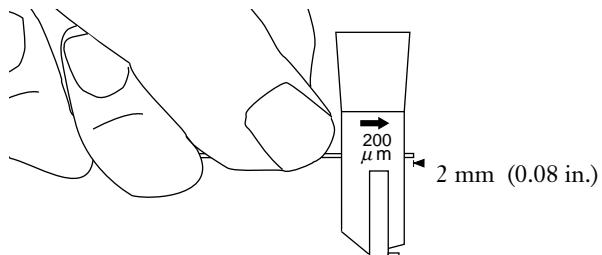

Figure 7
- Place the fiber in the V-grooves in the blade housing so that no more than 2 mm (0.08 in.) of buffered fiber extends beyond the housing (Figure 7). This positioning will provide a total strip length of 6 mm (0.25 in.).